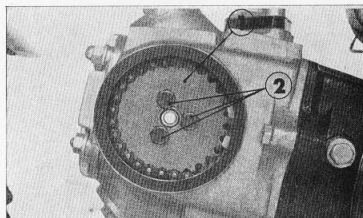

Figure 8. ① Cam sprocket ② Sprocket setting bolts
5. Loosen the three cam sprocket mounting bolts and remove the cam sprocket from the camshaft. (Fig. 8)